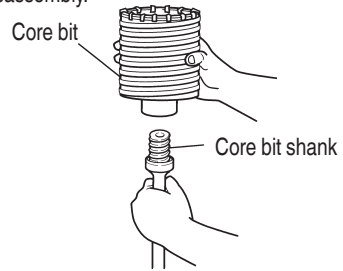

Fig. 17
- (1) Mount the core bit to the core bit shank. (Fig. 17)